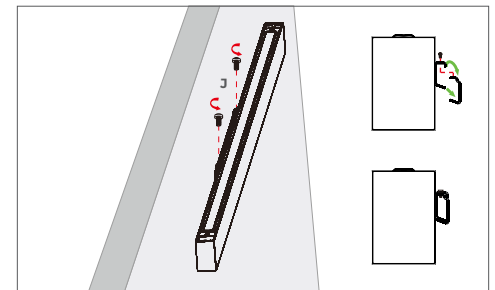

FIGURE 2-7
- 6) Secure fixture to wall using screw "J" (Figure 2-7)